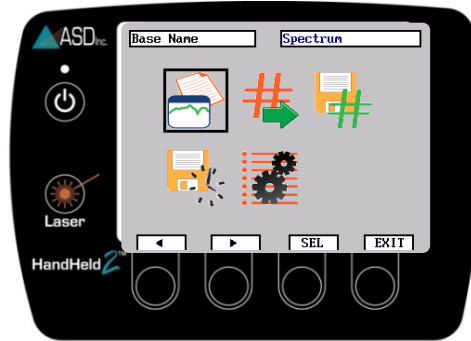

Figure 2-26: Navigate to the Base Name Icon
- Step 2 Navigate to the Base Name submenu and press the *SEL* button (Figure 2-26).